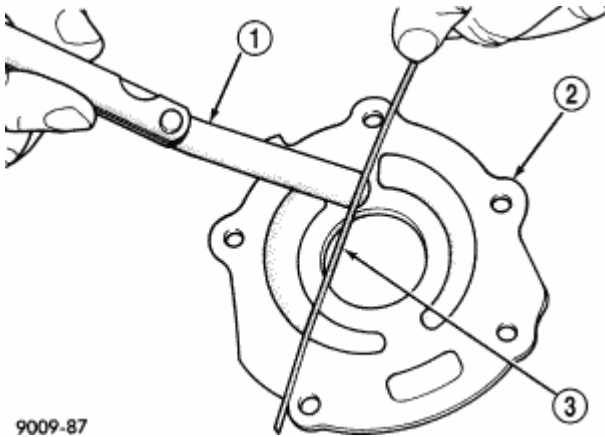

Fig. 187: Identifying Oil Pump Cover
2. Lay a straightedge across the pump cover surface. See **Fig. 187**. If a 0.025 mm (0.001 in.) feeler gauge can be inserted between cover and straight edge, cover should be replaced.